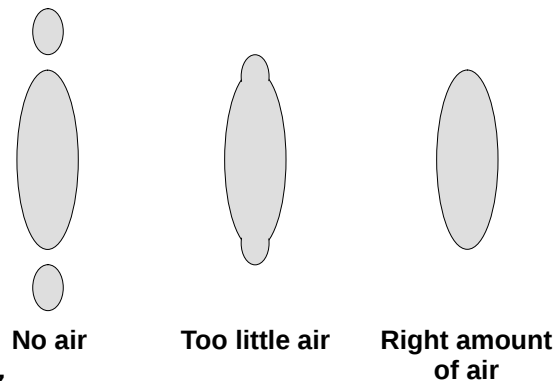

Fig 7
- 11 Set the atomizing air pressure to about 20 psi (1.4 bar). Check the spray pattern. Adjust the air pressure until all the tails are completely atomized and pulled into the spray pattern. See Fig 7. Do not exceed 100 psi (7 bar) air pressure to the gun.